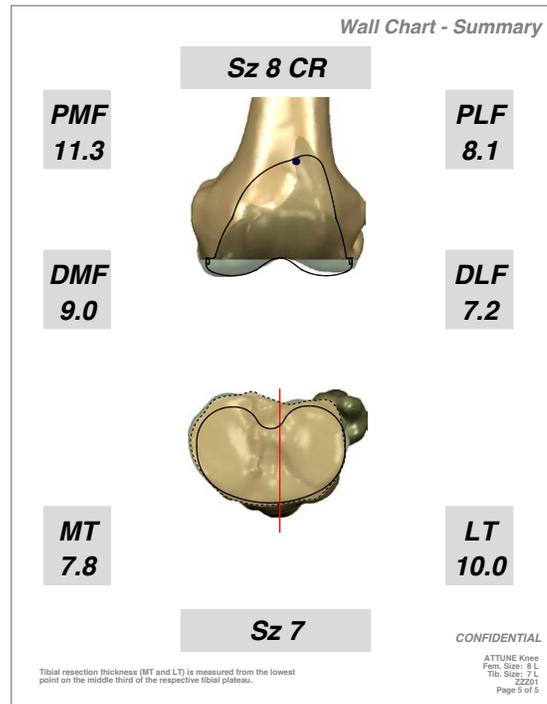

Figure 14
- Review the Wall Chart – Summary (last page), which contains bone resection information and Tibial Guide orientation view (Figure 14).